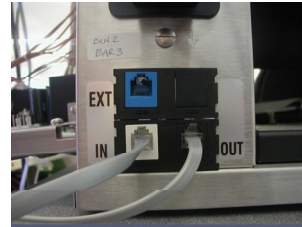

Figure 1
4) Connect the Kitchen Minder and the PHUs as shown in the wiring diagram below. Refer to Figure 1 for physical location of connectors on the rear of the Prince Castle PHUs.